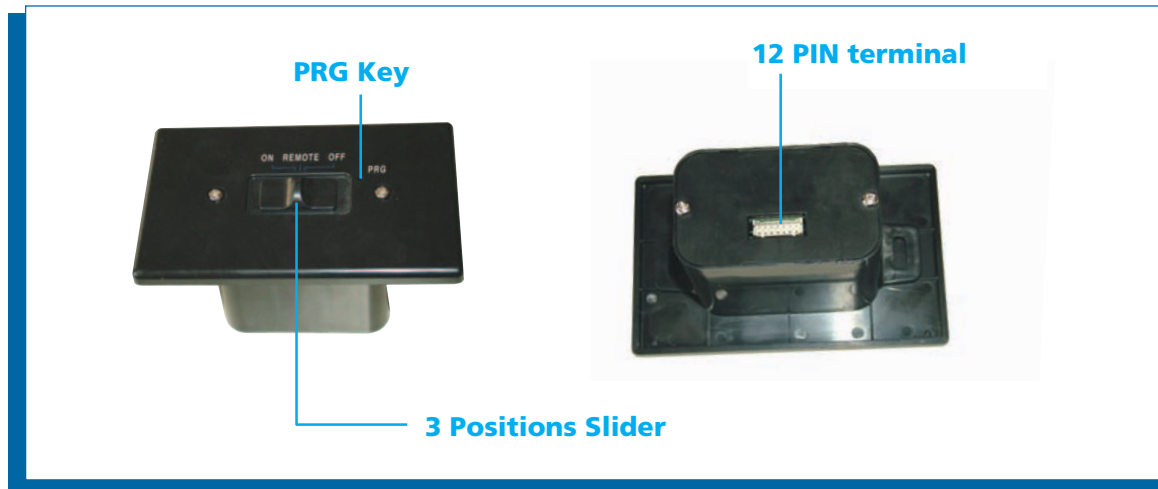

Fig. 3: Proflame Receiver body.
The Proflame Receiver (Fig. 3) connects directly to the gas valve and stepper motor and Fan Control Module with a wiring harness. The receiver is powered by 4 AA type batteries. The receiver accepts commands via radio frequency from the Transmitter to operate the appliance in accordance with the particular Proflame system configuration. The Receiver three position slider switch can be set to one of three positions: ON (Manual Override), Remote (Remote control) or Off.
Install the 4 AA batteries into the receiver battery bay. Note the polarity of the battery and insert into the battery bay as indicated on the Battery cover (+/-). Place the 3 position slider switch in the "Remote" position. (fig. 3) Using the end of a paper clip, or other similar object, insert the end of the paper clip into the hole marked "PRG" on the Receiver front cover (fig 3). The Receiver will "beep" three (3) times to indicate that it is ready to synchronize with a Transmitter. Install the 3 AAA type batteries in the Transmitter battery bay, located on the base of the Transmitter. With the batteries already installed in the Transmitter, push the On button. The Receiver will "beep" four times to indicate the Transmitter's command is accepted and sets to the particular code of that Transmitter. The system is now initialized.